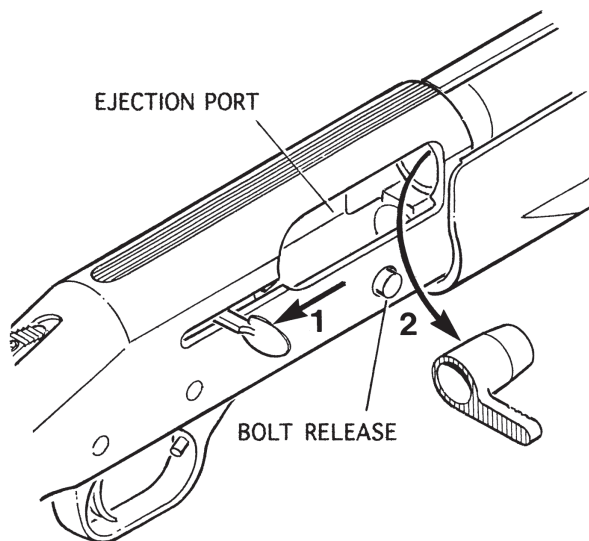

Figure 4
1. With the safety button fully rearward in the “ON” (SAFE) position, and the muzzle pointed in a safe direction, hold the firearm in your left hand by the forearm, and grasp the operating handle with your right hand. (Figure 4).
Keep fingers clear of the operating handle and the ejection port when closing the action. (Figure 4)
With the safety button fully rearward in the “ON” (SAFE) position, and the muzzle pointed in a safe direction, press the bolt release until the action releases (Figure 4).
3. While holding the elevator down with your thumb, press and release the bolt release (Figure 4). This will release one cartridge from the magazine tube under spring pressure.